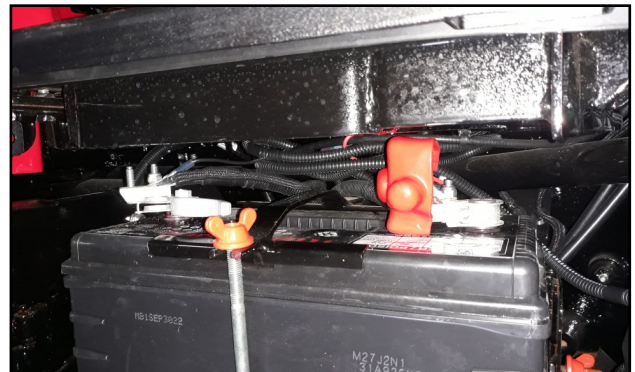

Fig. 11.7 (Power Supply Connections)
- 11.7 Locate the fuse harness (WH-GF). Make certain the fuse is installed in the fuse holder. Connect the fuse harness to the main power harness via the bullet connectors. Install the ring terminal found on the fuse harness to the positive battery terminal stud and secure using the nut which was removed in step 1.1. See Figure 11.7.
- 11.8 Install the ring terminal of the main power wire harness to the negative battery terminal stud. **Do not reinstall the negative battery terminal at this time.** Coil the slack in the power harness and secure with a wire tie. See Figure 11.7. Double check that the wires are not pinched or near sharp or hot surfaces.